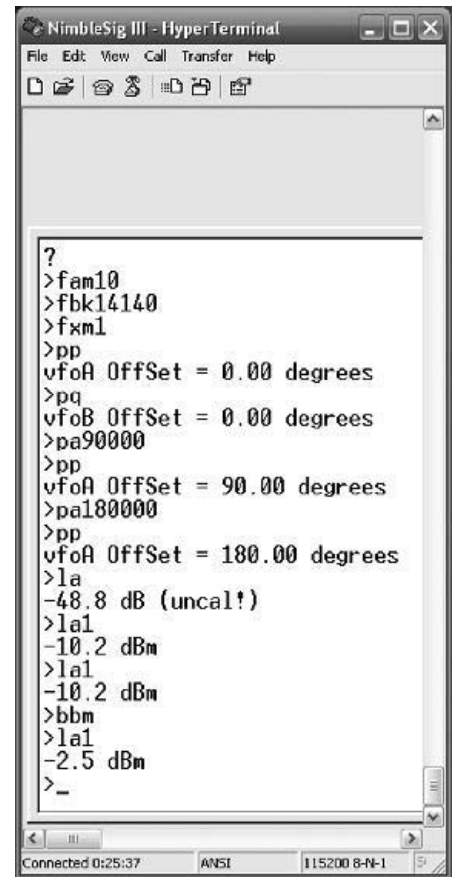

Figure 13 — This screen shot shows the NimbleSig III preliminary testing sequence of commands.
The following is a list of steps to follow to check out the basic functionality of the NS3 module and in the process gain some insight into the use of some of the commands. The Figure 13 screen capture illustrates this sequence of commands:
- Enter “bbm” to set output B to maximum level with no level correction. Enter the “la1” command and NS3 should report a level within the -2 to -4 dBm range. To do the same test at 10 MHz (not shown in Figure 13) enter “fbm10” and then enter “la10” to measure with the 10 MHz calibration factor. Note that this maximum output level will vary with frequency, but should remain higher than -11 dBm throughout the 100 kHz to 200 MHz range once the power detector has been properly calibrated. The 200 MHz low pass filters should start to roll off above 180 MHz. Note that there is a new design for a 230 MHz low pass filter described on my Web site, which I believe is an improvement, because it does not start to roll off until about 200 MHz.
Figure 13 is a screen shot of the above sequence of tests done with a fully calibrated module. Note that both the A and B output levels, which measured exactly the same, are very close to -10 dBm. This is because this unit had already been calibrated prior to this test sequence. It is unlikely that a fresh, uncalibrated module would perform to this level of accuracy with just typical calibration data — but it should be reasonably close.
The power detector noise floor can vary significantly depending on the RF environment. For example there was a three inch long, 93% shielded coaxial cable with SMB connectors on each end, connected to the detector input when I measured the -48.8 dBm noise floor shown in Figure 13. When I removed the cable, the noise floor dropped to -65 dBm. I suspect the short, open ended input cable was picking up 2.4